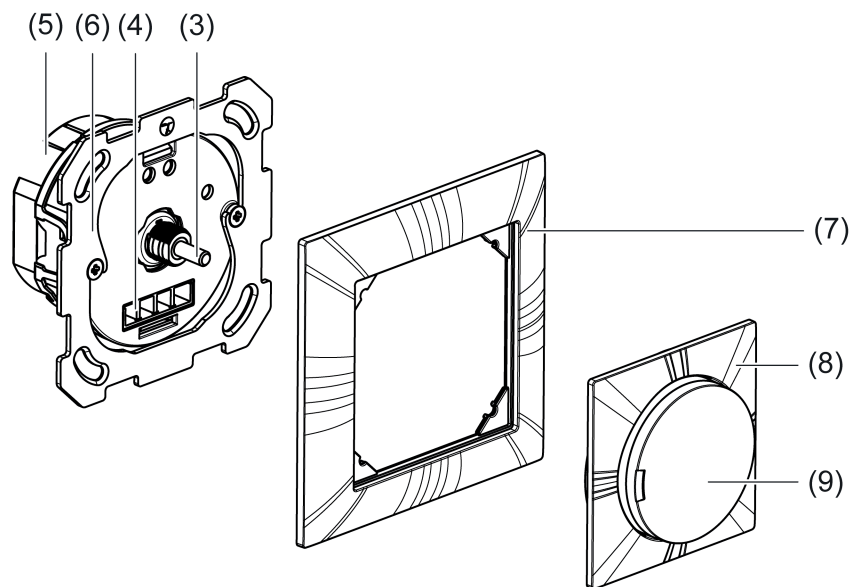

Figure 2: Mounting of the rotary sensor with design cover
- Dismantle central plate(7) and control button (8) if the device has already been completely mounted (Figure 2).
- Activating Programming mode: press the programming button (2).